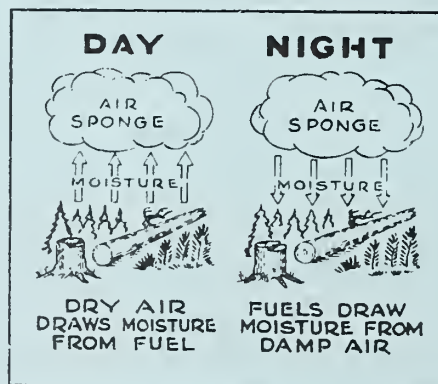

Figure 4.--Moisture.
2. Moisture. Moisture in the form of water vapor is always present in the air (figure 4). The amount of moisture that is in the air affects the amount that is in the fuel. The moisture content of fuels is an important consideration in firefighting since wet fuels, and most green fuels, will not burn freely. Air is usually drier during the day than it is at night. Fires, then, burn more slowly at night, under normal circumstances, because moisture is absorbed by the fuels from the damper night air. This is particularly true of fuels such as dry grass, tree needles and small twigs.